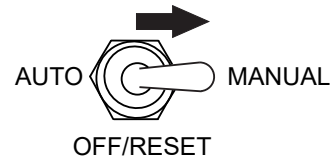

Figure 5. Auto Start/Stop Switch (Manual Position)
- To start the engine, place the **Auto Start/Stop** switch in the **MANUAL** position (Figure 5).